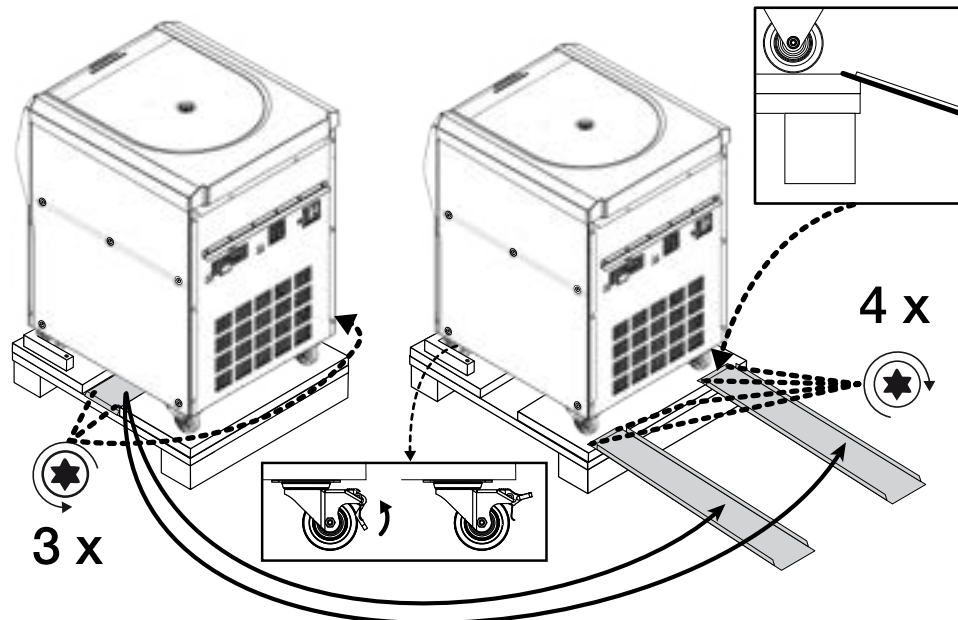

Figure 1-7: Mounting the Rails for Unloading
10. Locate the rails in the middle of the pallet underneath the centrifuge, as shown on the left side in Figure 1-7.
12. Remove the rails from underneath the centrifuge and place one just before each of the two front castors, as shown on the right side in Figure 1-7.
- a. The pallet has a beveled edge. The end of the tab must rest on the beveled edge and be completely flush with the top surface of the pallet, as shown in the square box in the upper right corner of Figure 1-7.
14. Using two of the leftover woodscrews, fasten each rail to the pallet, as shown on the right side in Figure 1-7.
16. Unlock the swiveling castors on the front side of the centrifuge by flipping up their locking levers, as shown in the rectangular box at the bottom center of Figure 1-7.